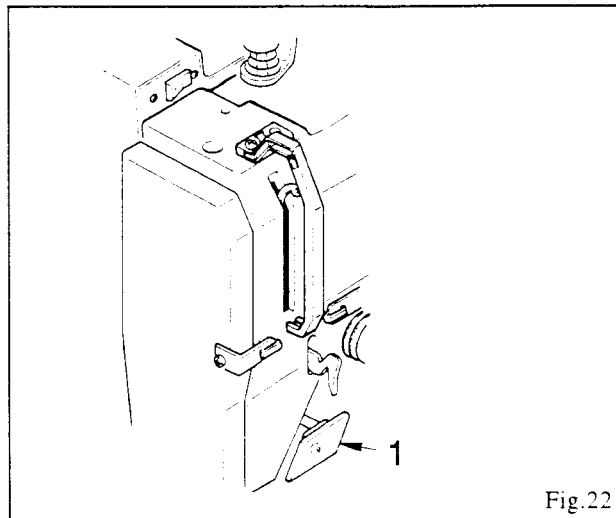

Fig.22
Push back tack switch (1), Fig. 22, for back tacking. The machine will continue to sew in reverse while the back tack switch is pushed.